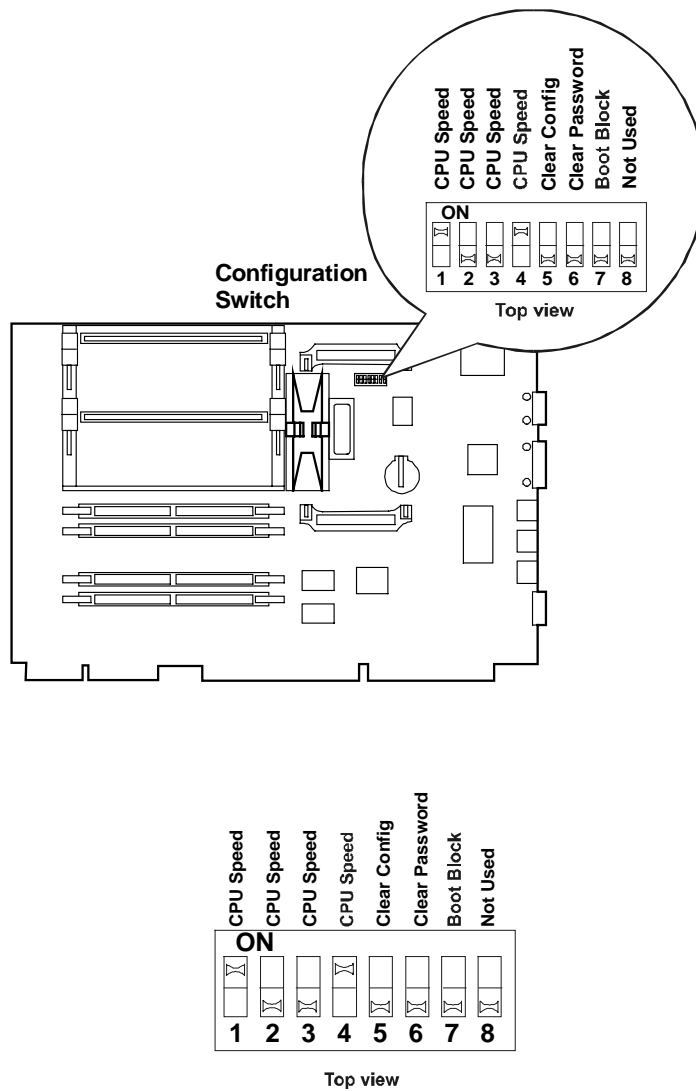

Figure 12-1. System Assembly Board and System Switches
3. Move the configuration memory switch, switch 5 on the system board, to the "ON = CLEAR CONFIG" position. Refer to Figure 12-1.
3. Refer to Figure 12-1 and move switch 6 on the system board (labeled "Clear Password") to the ON position.